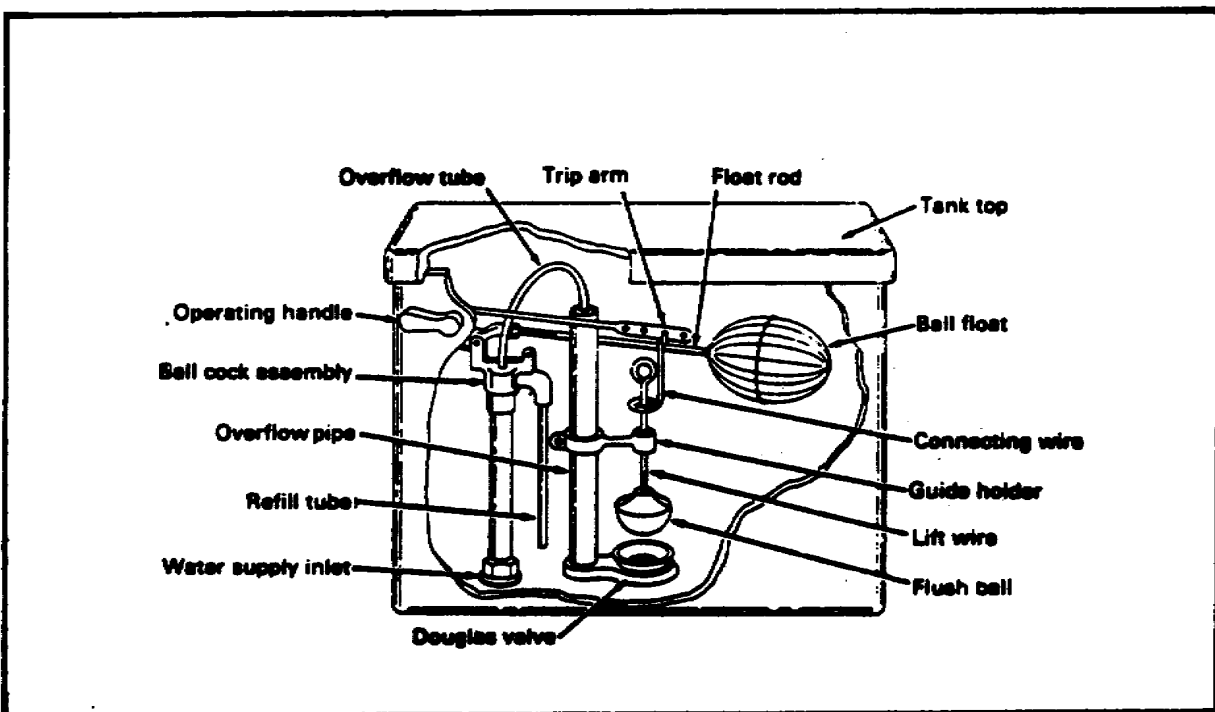

FIGURE 27. INSTALLING BALL COCK FLUSHING MECHANISM
*Installing a ball cock flushing mechanism.* Use the following steps to install a ball cock flushing mechanism (see Figure 27):